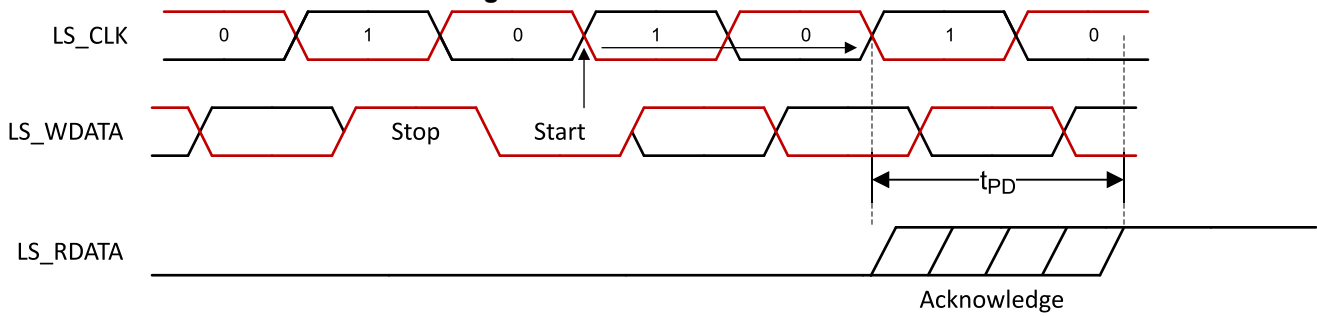
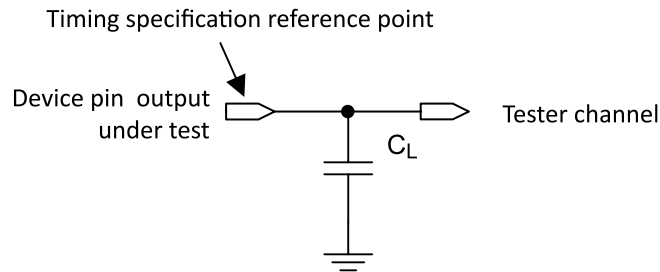

Figure 5-10. LPSDR Read Out
Figure 5-11. Test Load Circuit for Output Propagation Measurement
(1) Device electrical characteristics are over *Recommended Operating Conditions* unless otherwise noted.
(2) See Figure 5-10 and Figure 5-11.